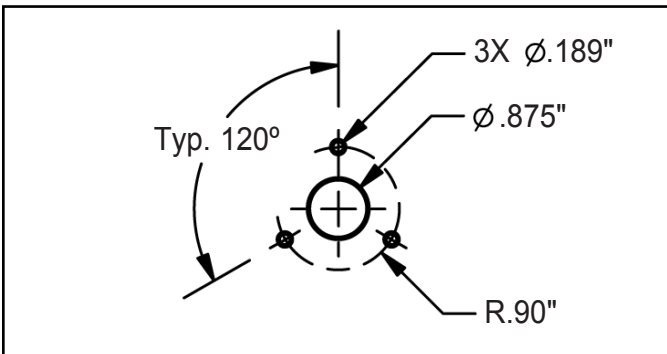

Figure 9. Drill pattern for mounting the bracket to a turnstile's cover
1. The 50771 Turnstile Bracket provides a way to route the SmartLog's cables through the turnstile's enclosure in order to eliminate tampering of the connections. Use the drill pattern in Figure 9 to mill the top cover of your turnstile and clear space to mount the bracket.